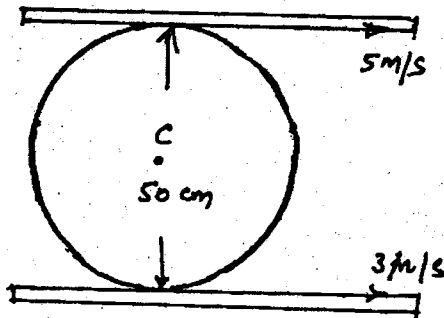

Fig. 8
- (b) A cylindrical roller 50 cm diameter is in contact with two conveyor belts at its top and bottom as shown in Fig. 8. If the belts run at the uniform speed of 5 m/s and 3 m/s. Find the linear velocity and angular velocity of the roller.